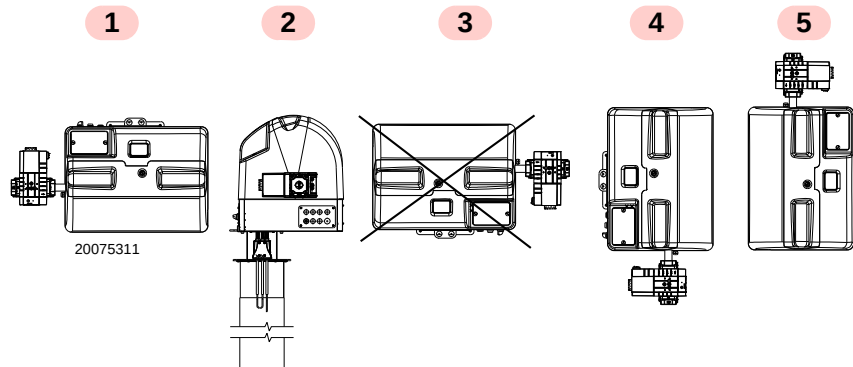

Fig. 11
- The burner is designed to operate only in positions **1**, **2**, **4** and **5** (Fig. 11).
- All the positions require the installation of the gas valve with coils pointing upwards or horizontal (Fig. 11).